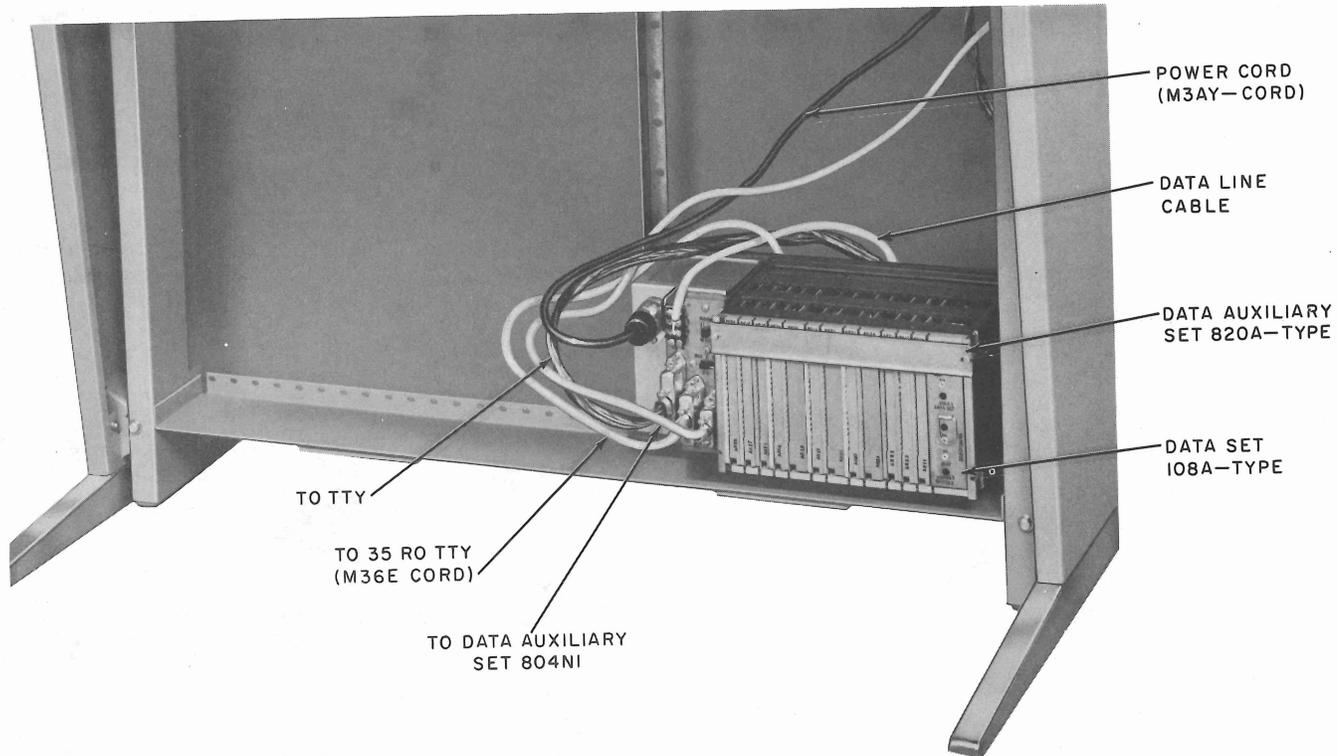

Fig. 14—35-Type TTY Data Station—Data Auxiliary Set 820A-Type
- (11) Disconnect plug on the M24F cord (part of the 804N1 attendant set) from the P connector on the controller (Fig. 14).
- (12) Withdraw the cable from the pedestal of the TTY.
- (13) Remove the mounting bracket, key and lamp assembly, and loudspeaker from the TTY.
- (3) Depress the spring clip underneath the keyboard and lower the front panel to the floor.
- (4) Grasp the front panel by the sides and lift to disengage the hinge pins.
- (5) Remove the front panel.
- (6) Disconnect the M, N, P, and power plugs from the controller connectors (Fig. 14).
- (7) Loosen the two screws on the controller terminal and remove the Tip (T) and Ring (R) spade lug wiring.